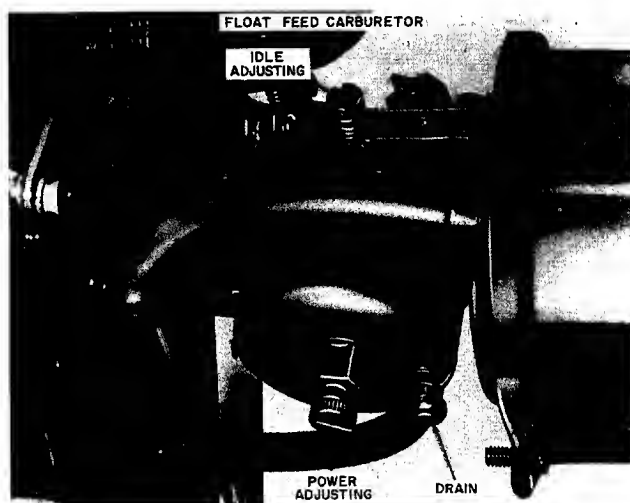

FIGURE 7.
1. Close power adjusting needle (figure 7) by turning to right (clockwise). Close finger tight only. Forcing will cause damage.
3. Close idle adjusting needle (figure 7) by turning to right (clockwise). Close finger tight only. Forcing will cause damage.
7. Hold throttle lever closed or move carburetor control to IDLE or SLOW position and adjust idle adjusting needle until engine runs smoothly proceeding as in step six (6) above.
8. Allow several seconds between each adjustment when performing either step six (6) or seven (7) to allow engine to react to new setting.
2. Drain carburetor by pressing upward on bowl drain (figure 7).